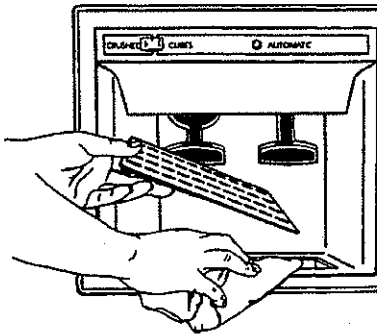
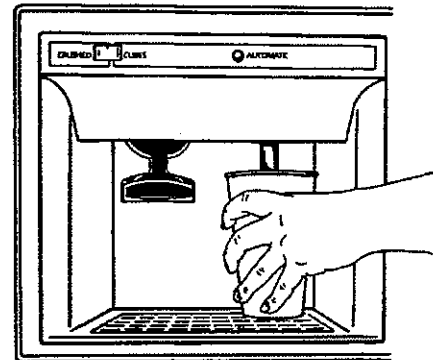

Figure 78
Figure 79
- Spill shelf is **not** self-draining, so excess water should be poured into sink or wiped dry immediately. See Figure 78.
- Release pressure on bar to shut off water. See Figure 79. Slight dripping may occur. Spill shelf is **not** self-draining, so large spills should be wiped dry immediately. See Figure 78.